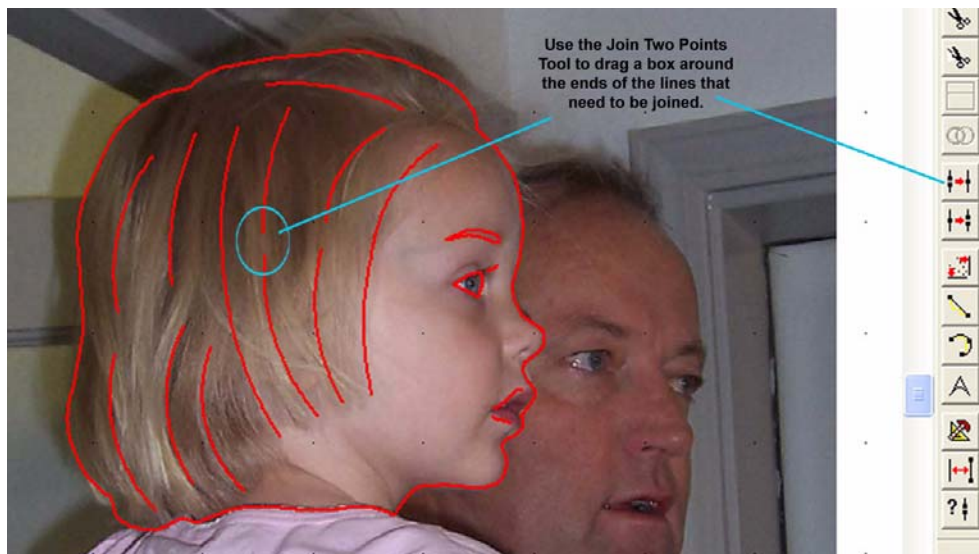

Figure 170
- 5 Click the **Redraw** tool. When you do, the line colors changes to red. See figure 170.
4 Use the **Draw Segment** tool to add individual accent lines. Accent lines do not connect the line made previously. See figure 170.